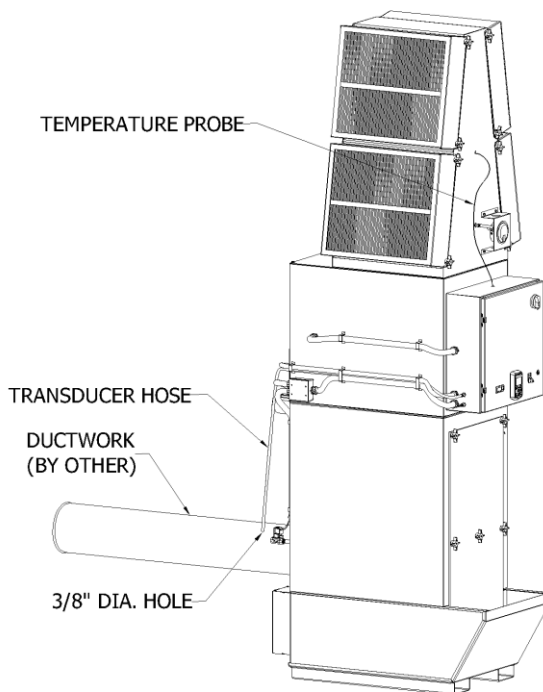

FIG. 2
9. Connect pressure transducer hose to hole in duct work (drilled in step 8). Insert hose 1/2" into duct for proper measurement (Fig. 2).
2. Remove the measurement tube from the inlet duct work (Fig. 2), and inspect for material build-up.